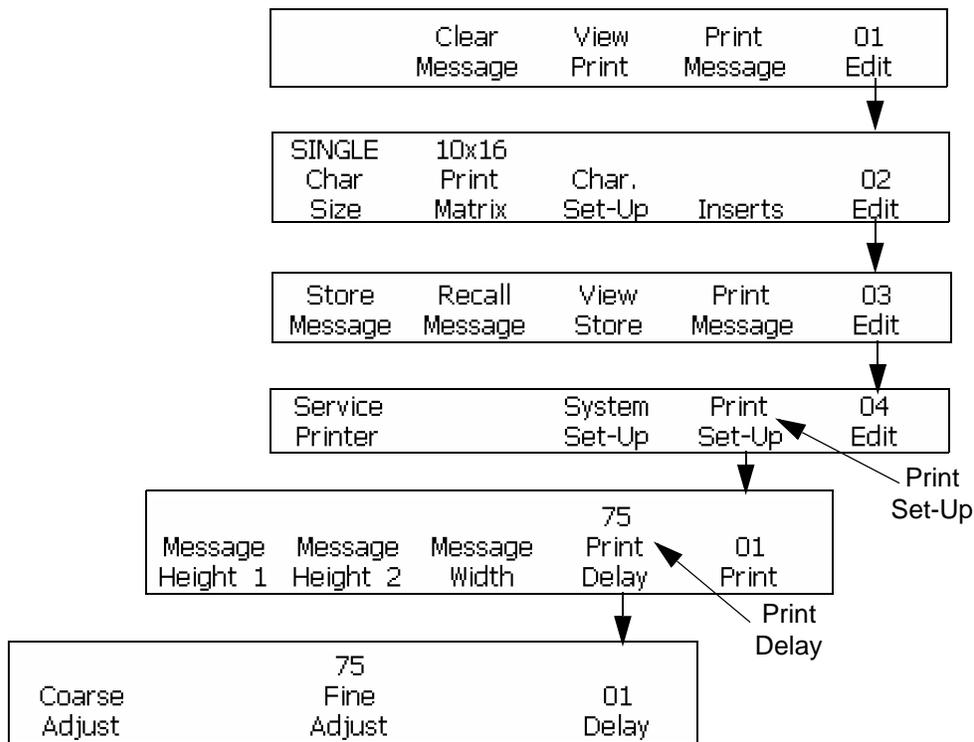

Figure 7-13: Access Frame <01 Print>
- 1 Begin with the Frame <01 Print>. Refer to Figure 7-13.